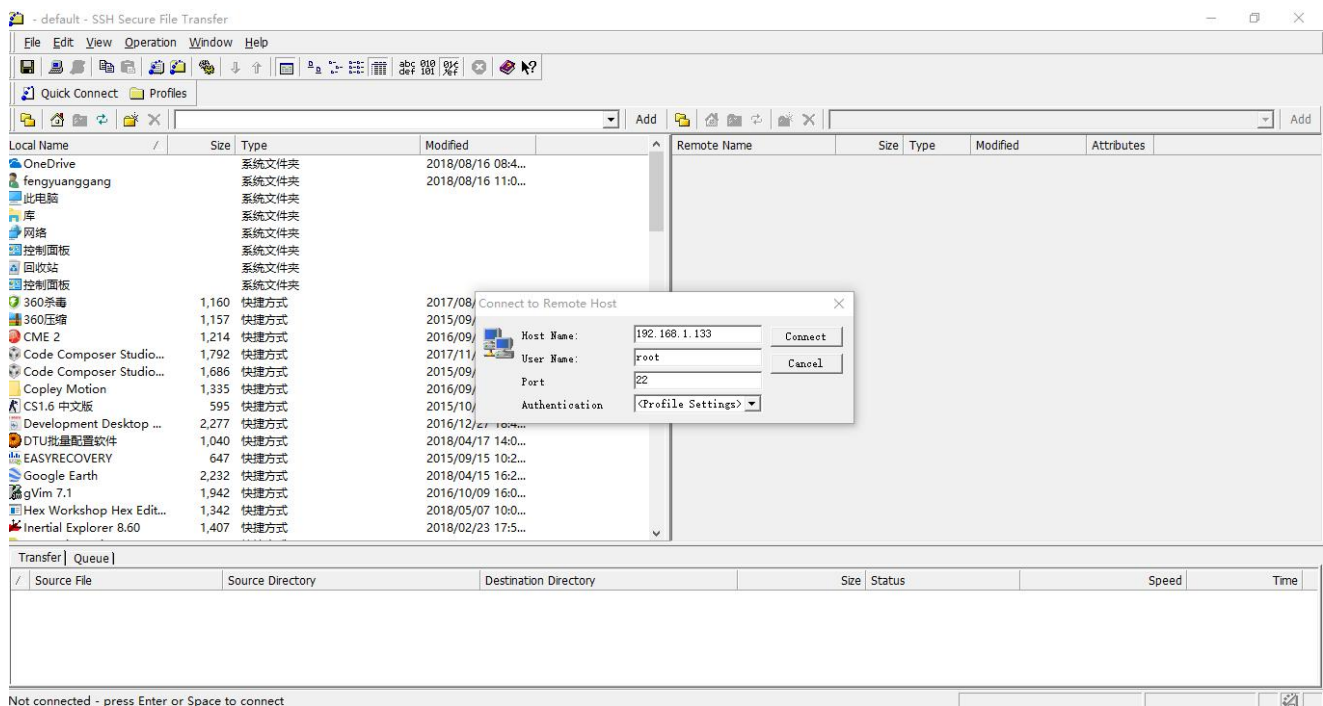

Figure 4 SSH Software Connection Diagram
e) Click Quick Connect and fill in the contents as shown in Figure 4;